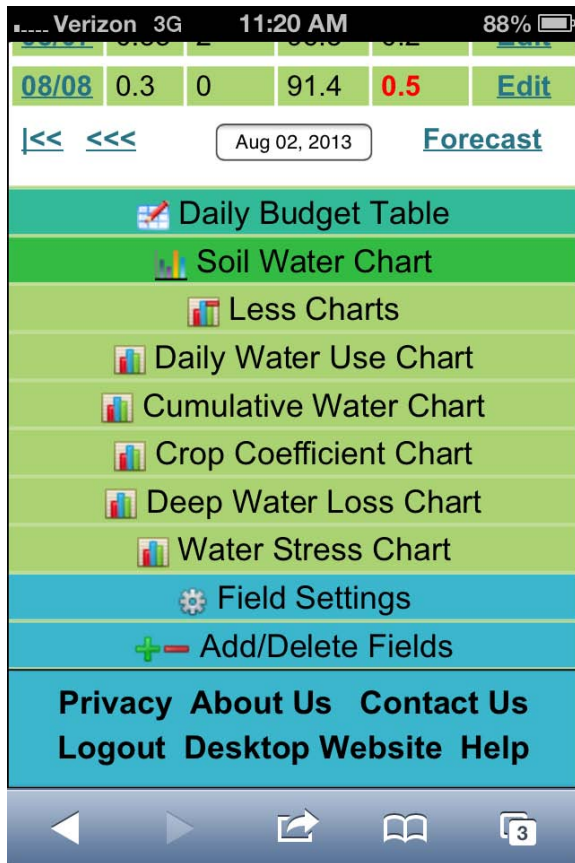

Figure 16. After clicking “More Charts”
**Edit Data:** Use this link at each line to add irrigation amounts or correct the model for measured soil water contents (Figure 16).
Clicking the “More Charts” button will give you access to the additional charts shown in Figure 16 that help you understand and evaluate your field and your soil water balance model. Clicking “Less Charts” hides these charts again.